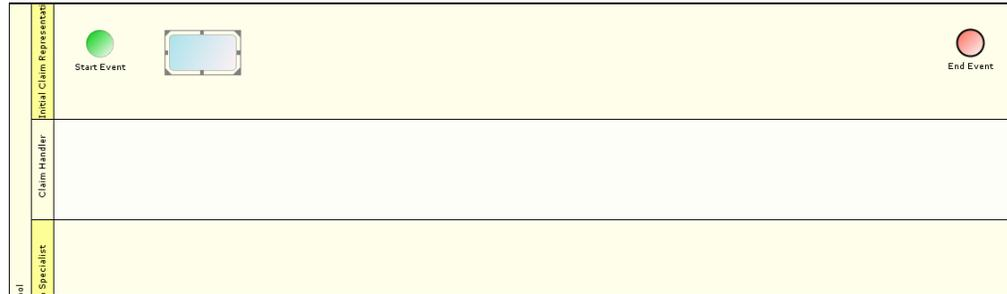

Figure 7.5: Dragging BPMN Activity into Swim Lane
1. Click **Activity** element () in the Palette and drag it to the first swim lane (*Claim Handler*), on the Graph Canvas. The dragged activity element is displayed in the selected swim lane on the Graph Canvas (see Figure 7.5).